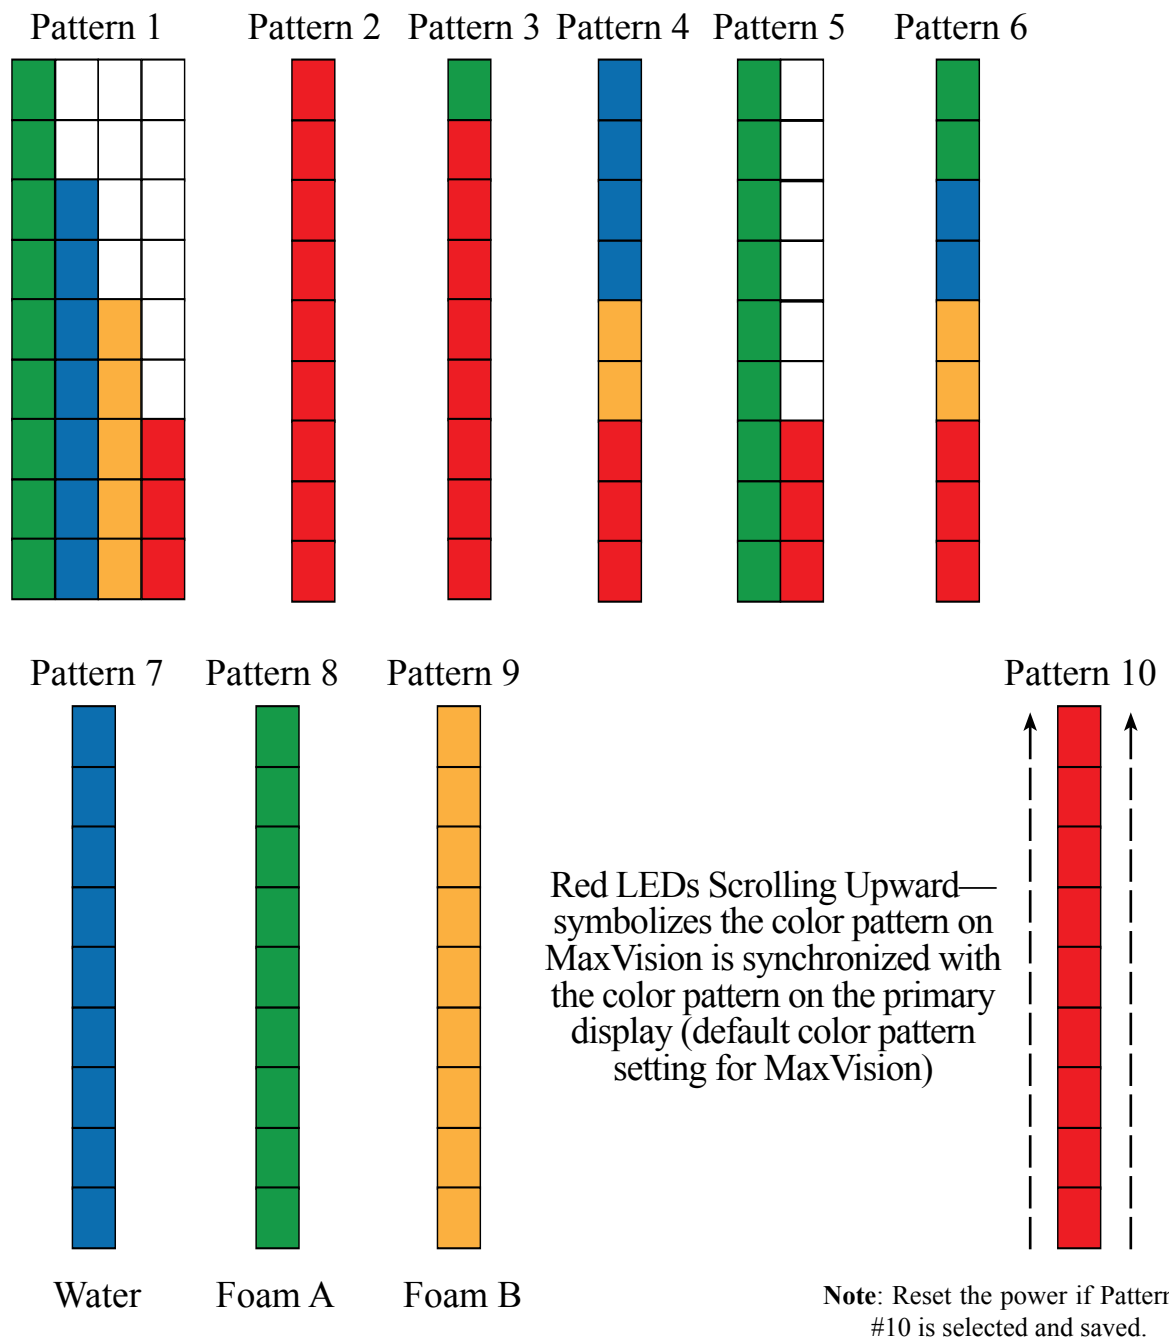

Figure 5. MaxVision Color Pattern Programming
However, these same six color patterns from Fig. 10 (shown in Fig. 5) can be "locked in" for the MaxVision only, separately from the color pattern shown on the primary display.
1. Measure and mark mounting location for light driver. Make sure there is clearance for driver and cable before drilling holes. Refer to Figure 5 for dimensions.